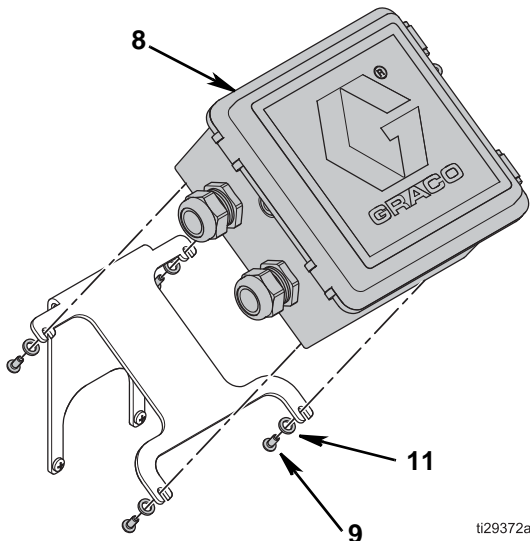

FIG. 13 Attach controller to remote mounting bracket
3. Attach the controller (8) to the mounting bracket (6) using supplied screws (9) and washers (11). See FIG. 13.